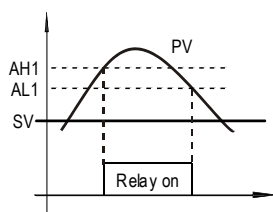
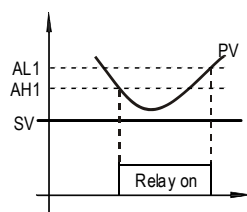

Figure 5. Absolute high alarm
Figure 6. Absolute low alarm
- Press SET key once. Use  $>$ ,  $\wedge$  and V keys to enter code 0001. Press SET key to confirm, then the display would be SV (SV). Press SET key again to display the SV setting. Use  $>$ ,  $\wedge$  and V keys to enter the new SV value and press SET key to confirm. Press V key to change the display to END. Then, press SET key to exit. You can also ignore the steps after confirmation of SV. The controller will return to normal operation mode automatically if no key is pressed for 1 minute. This method is easier for large temperature change.
**Note 13.** Alarm setting. The J1 relay is controlled by parameters AH1 and AL1. And the J2 relay is controlled by parameter AH2 and AL2. AH1 (or AL2) is the temperature to turn the J1 (or J2) relay on; AL1 (or AL2) is the temperature to turn the J1 (or J2) relay off. When  $AH1 > AL1$  (or  $AH2 > AL2$ ), the J1 (or J2) alarm is set for absolute high alarm as shown in Figure 5 below. When  $AH1 < AL1$  (or  $AH2 < AL2$ ), the J1 (or J2) alarm is set for absolute low alarm as shown in Figure 6 below. When  $AH1 = AL1$  (or  $AH2 = AL2$ ), the J1 (or J2) alarm is deactivated.